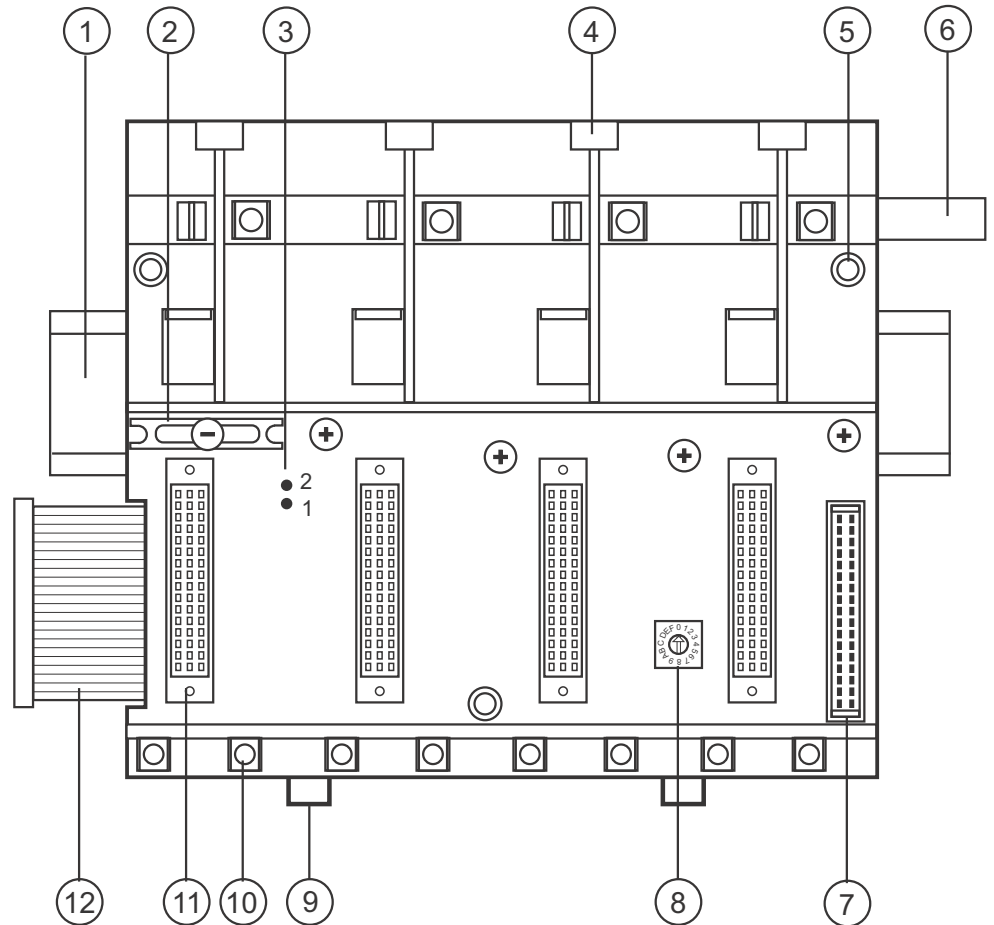

Fig. 3-1 Front view of standard SFC901A rack with four slots
Fig 3-1 shows the principle features and components of the standard SFC901A rack assembly with four slots.
- 1 The wire link W1, see Item 3, Fig. 3-1, connects to the backplane power supply line of the rack to its left:
- 3 If the racks are to be mounted adjacent to each other, insert the metal rack strengthening bar into the slot provided for it, see Fig. 3-1, Item 2.